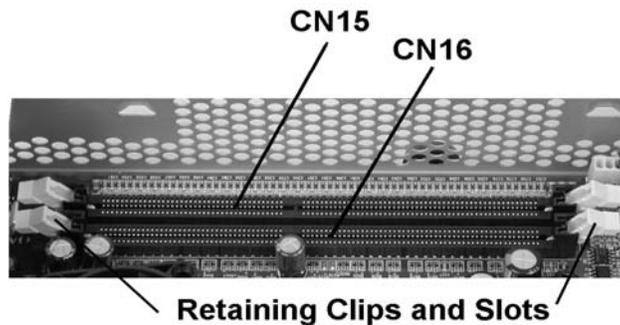

Figure 3-26: PCWS 2010 System Board DIMM Sockets
- 3.** Figure 3-26 displays the system board DIMM sockets, labeled CN15 and CN16. Note the retaining clips and slots at each end of the socket. Install multiple DIMMs in CN15 first, then CN16.